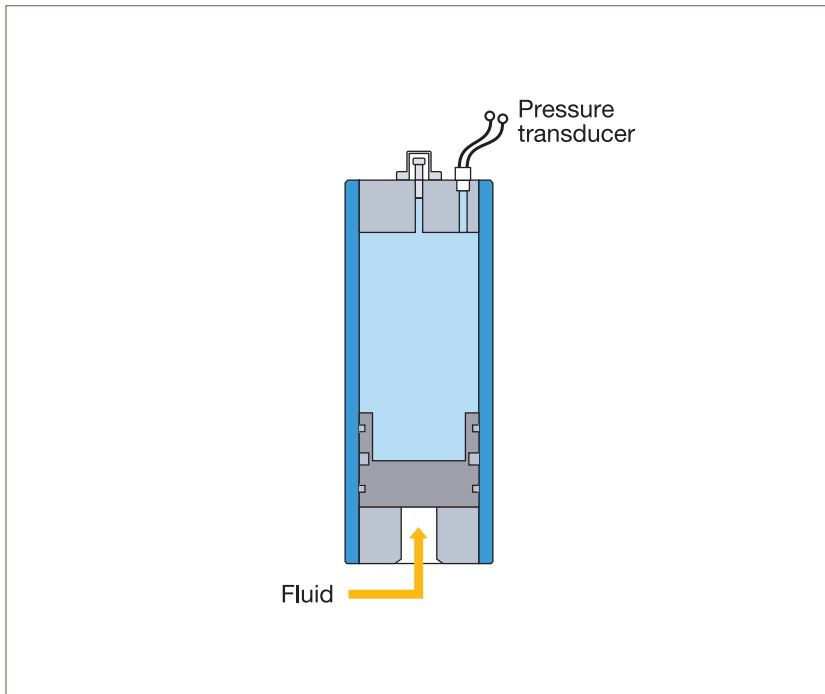

Fig. 14a Pressure transducer measures actual precharge pressure of shut down system
- **With the hydraulic system shut down, cool and accumulator emptied of fluid: A pressure transducer or gauge located in the gas end cap (Fig. 14a) indicates the true precharge pressure.**